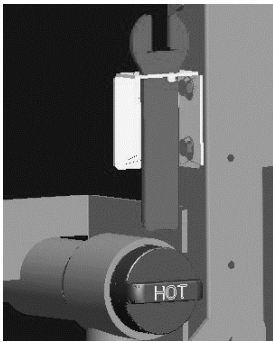

Figure 3: Mount the wrench above the pre-filter as shown.
8. Mount the filter wrench holder and wrench. **See figure 3.**